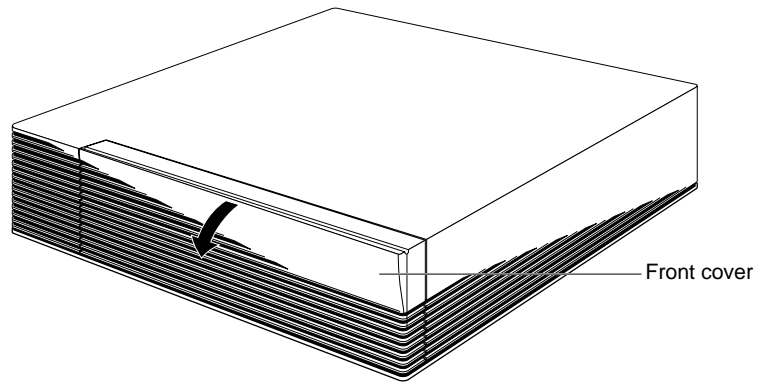

Figure 1-1 Removing the Front Cover
- Open the front cover by snapping it away from the top edge of the chassis and tipping it down, as shown in Figure 1-1.